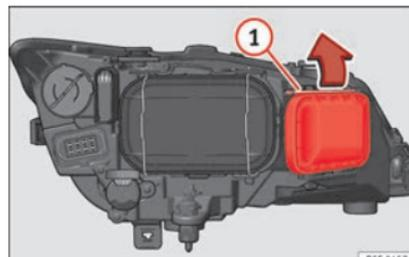

Fig. 105 Turn signal bulb.
- Move the loop » Fig. 105 ① in the direction of the arrow and remove the cover.